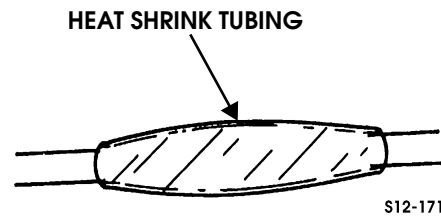

Figure 12-14: Heat Shrink Tubing
8. After the splice cools, apply two layers of vinyl adhesive electrical tape to complete the repair (Figure 12-14).